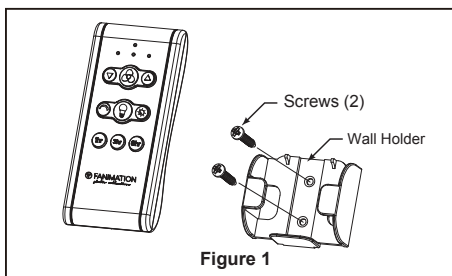

Figure 1
1. To set the code on receiver unit, slide dip switches to the same positions as set on the remote. (Figure 1)
1. Align the wide tab of motor assembly to the wide notch of ceiling bracket. Carefully secure the motor housing onto the mounting slots on ceiling bracket by twisting in a clockwise direction. Be sure the receiver and all wiring are tucked into the motor housing and is not pinched. Once the motor assembly is flush with your ceiling, replace the previously removed screws and securely tighten all four screws. (Figure 1)
1. Slide blades through slots in motor housing and attach to the motor hub using the 3/16"-24 washer head screws and fiber washers. Make sure the screws securing the blades to the motor hub are tight and are properly seated. (Figure 1)
1. Remove one of the three screws in the support bracket at the bottom of the motor assembly. Retain the screw for later and slightly loosen the remaining two screws. (Figure 1)
- ☐ 1. **IMPORTANT:** Using a full range dimmer switch (not included) to control fan speed will damage the fan. To reduce the risk of fire or electrical shock, do not use a full range dimmer switch to control the fan speed. (Figure 1)
- ☐ 1. Installing Wall Holder: (Figure 1)